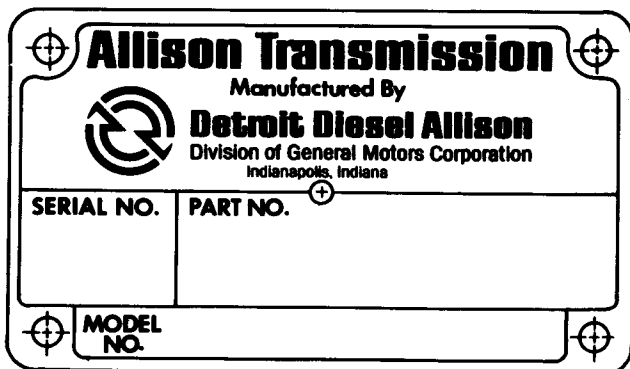

Fig. 1-5. Transmission nameplate
a. Transmission Nameplate. The nameplate (fig. 1-5) gives the transmission model number, part number (assembly number) and serial number (refer to fig. 1-1 and 1-3 for nameplate location). To insure that the correct parts will be supplied, furnish all three numbers when ordering parts or requesting service information.